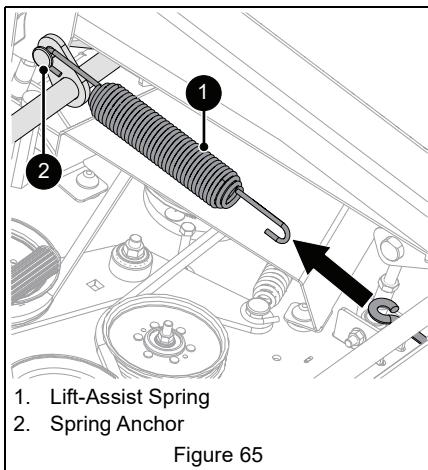

Figure 65
- Slowly disconnect lift-assist springs from spring anchor on each side of unit. See Figure 65.